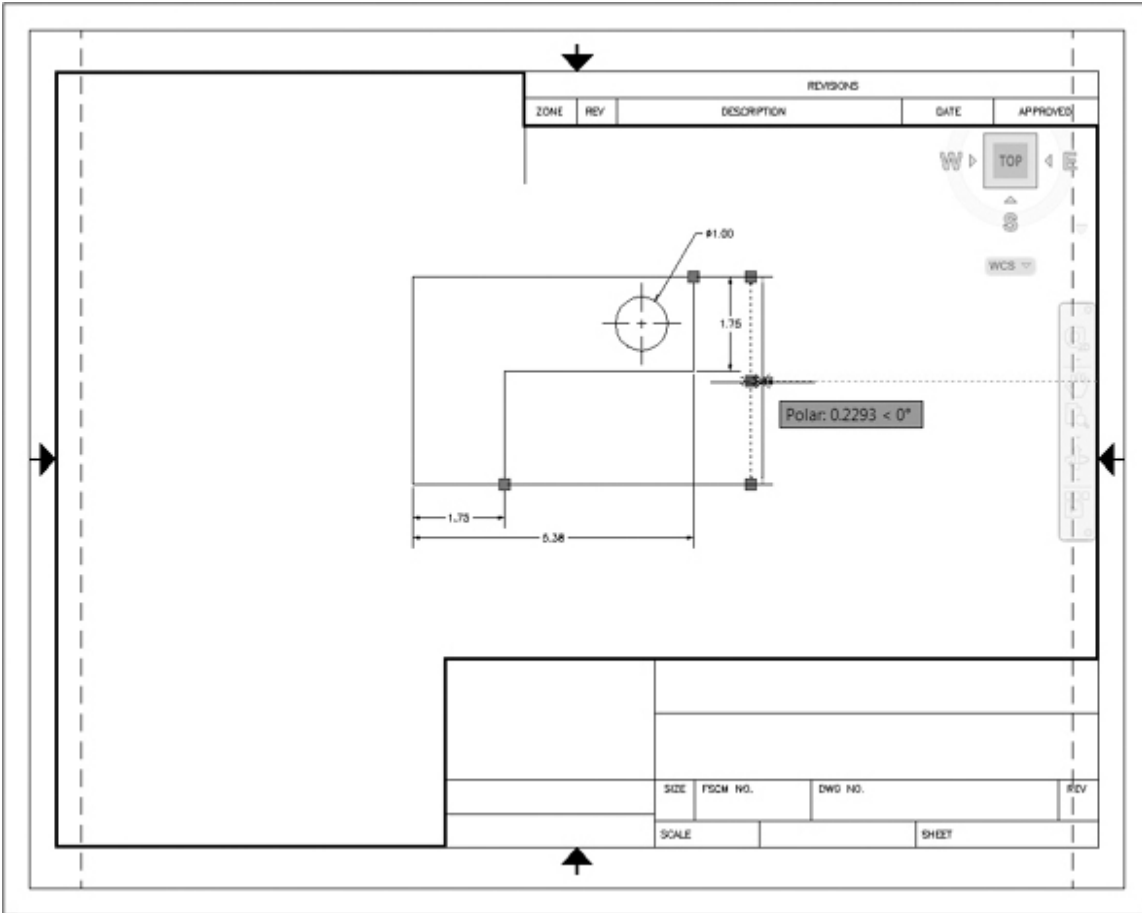

Figure 2-52
It is possible to display all of an annotation object's scale representations when you select it so that each size is visible. You can grip edit the current scale's representation without affecting any of the other scale representations. For instance, by using grips, you can relocate one scale representation while leaving the others in their current locations, as shown in Figure 2-52.
- 4 Use grips to relocate the dimensions so that they no longer overlap, as shown in Figure 2-52.